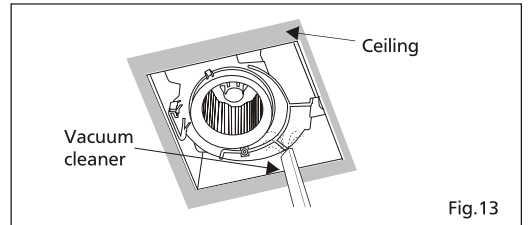

Fig.13
4. Remove dust and dirt from fan body using a vacuum cleaner. (Fig.13)